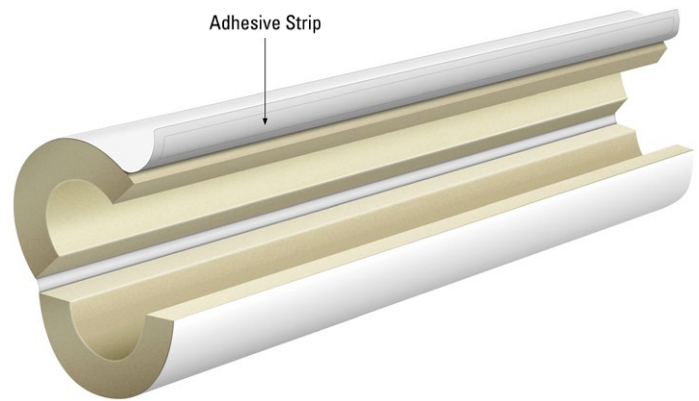

Figure 2 - Lap Seal on Saranex CX Vapor Retarder Film
- 4.1.1.7 Seal the longitudinal lap joint of the Saranex CX Film using SSL tape (see Section 3.2.2) or liquid adhesive (see Section 3.2.5). Figure 2 shows more detail. If using a liquid adhesive refer to section 4.1.2.6 for installation guidelines.